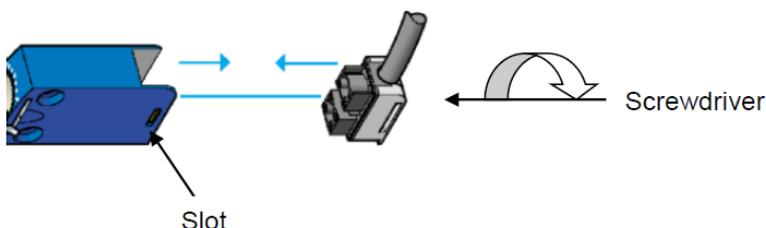

Fig. 5.1
4. For an easier handling, it is possible to remove the connector of indicator switches Fig.5.1. Unlock the connector by insert the screwdriver behind the connector and turn it a 1/4 of a turn counter-clockwise and then insert the screwdriver into the slot at the side to release the connector.
2. For an easier handling, it is possible to remove the connector of indicator switches Fig. 5.1. Unlock the connector by insert the screwdriver behind the connector and turn it a 1/4 of a turn counter-clockwise and then insert the screwdriver into the slot at the side to release the connector. In 'ATEX' execution, it is not possible to remove the connector see Fig. 5.1.
3. Remove the 2 connectors of opening and wear contacts Fig.5.1.